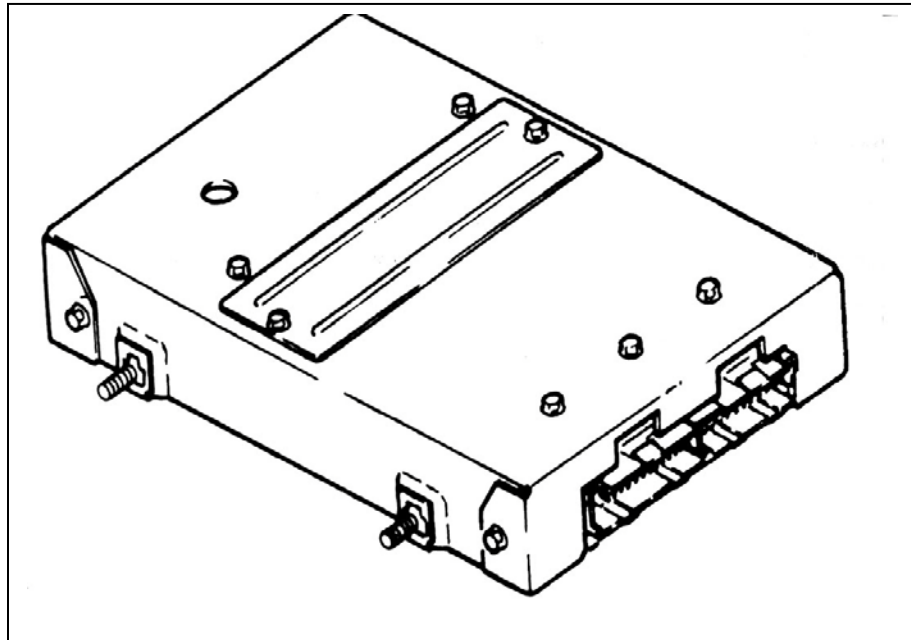

Figure 4.1 Fuel Injection Computer
- LATE VERSION TUNED PORT INJECTION (TPI) SYSTEM WITHOUT A MASS AIRFLOW (MAF) SENSOR, DESIGNED TO USE A MANIFOLD ABSOLUTE PRESSURE (MAP) SENSOR, BUT DOES NOT REQUIRE AN ELECTRONIC SPARK CONTROL (ESC) MODULE: The 60103 and 60203 harnesses are designed for and will support this system. This system has three connectors at the computer instead of the two connectors shown in **Figure 4.1**.